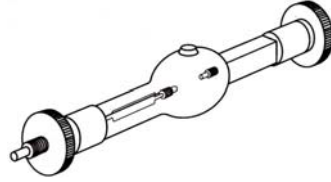

Fig. 2
- Put in the new lamp securely into the socket. Please note the protuberance of bulb shall be upward orientation to obtain equal intensity distribution (see figure2).